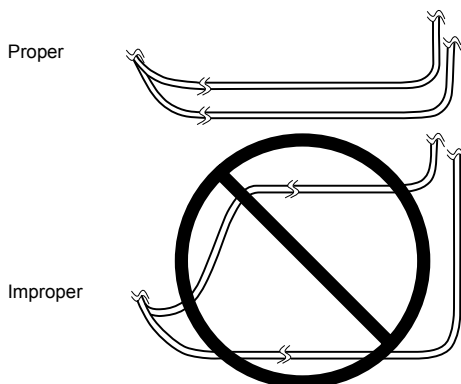

Figure 5. Routing for two lead bodies.
- When routing two lead bodies, assure that the area between them is minimized (Figure 5). If the lead bodies are routed in a loop and the patient is exposed to some sources of electromagnetic interference (eg, theft detectors), the patient may perceive a momentary increase in stimulation, which some patients have described as uncomfortable stimulation (jolting or shocking sensation).